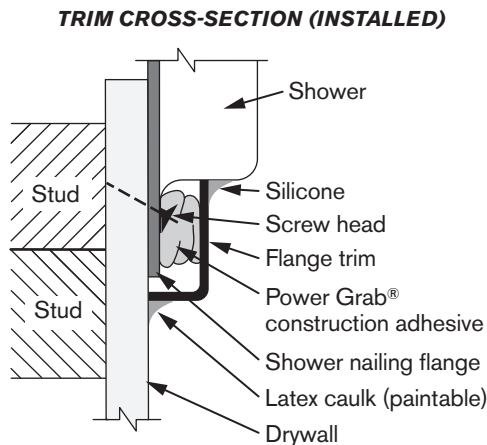

Figure 3
5. Clear away any excess adhesive, then caulk around all edges. Use 100% silicone between shower and trim; use paintable latex between trim and drywall (Figure 3).